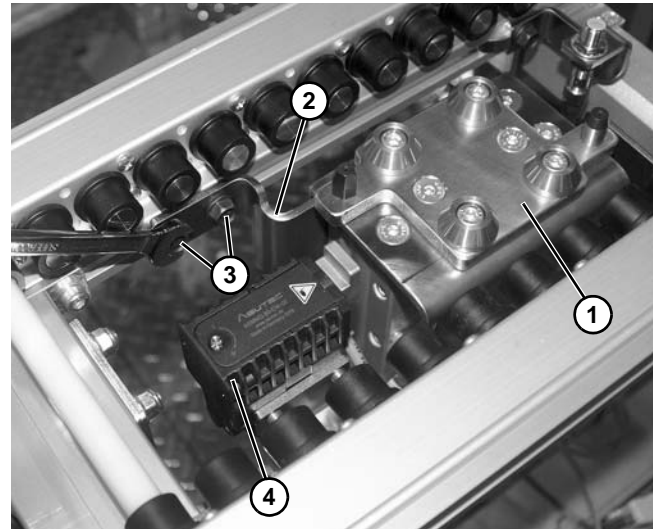

Figure 16
3. Raise lift and locate station (Figure 16, item 1) into position from under the conveyor, lining up two holes in bracket (Figure 16, item 2) with spring nuts in slotted channel of conveyor. Tighten screws (Figure 16, item 3).
4. Install pallet stop (Figure 16, item 4) at leading end. (Refer to “Pallet Stops” starting on page 8.)